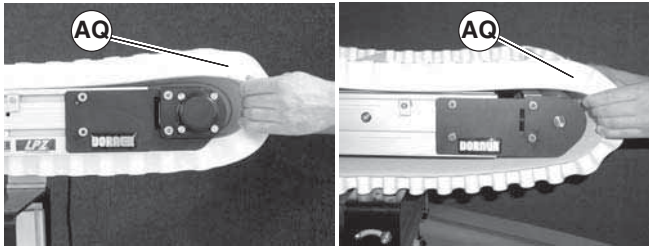

Figure 20
- Place temporary support stands (Figure 20, item AR) at both ends of the conveyor. Place an additional support stand under the drive motor (AS), if equipped. See WARNING.
- Remove mounting brackets (Figure 20, item AT) from one side of conveyor. (Reverse steps 3 & 4 of “Mounting Brackets” section on page 9).
1. Ensure temporary support stands (Figure 20, item AR) are placed at both ends of the conveyor. Place an additional support stand under the drive motor (AS), if equipped. See WARNING.